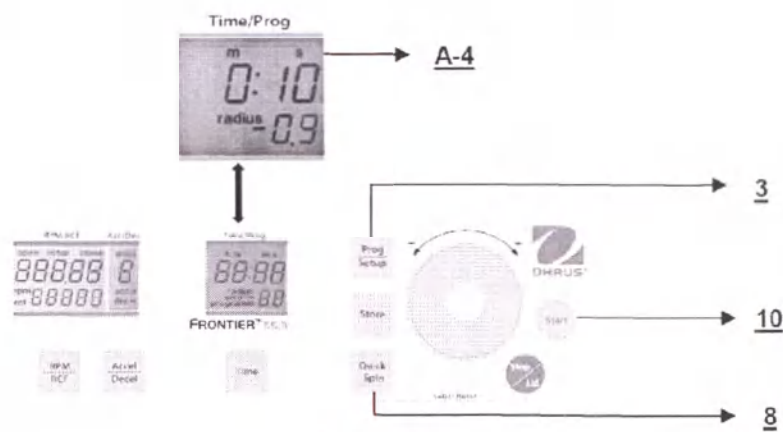

Figure 24
You can start the centrifuge either with the **"Start"** key (10) (refer to figure 24) or the **"Quick Spin"** key (8). By the **"Start"** key (10) you can start stored runs or runs with manually pre-selected parameters. When the respective pre-selected running time has ended the centrifuge will stop automatically.